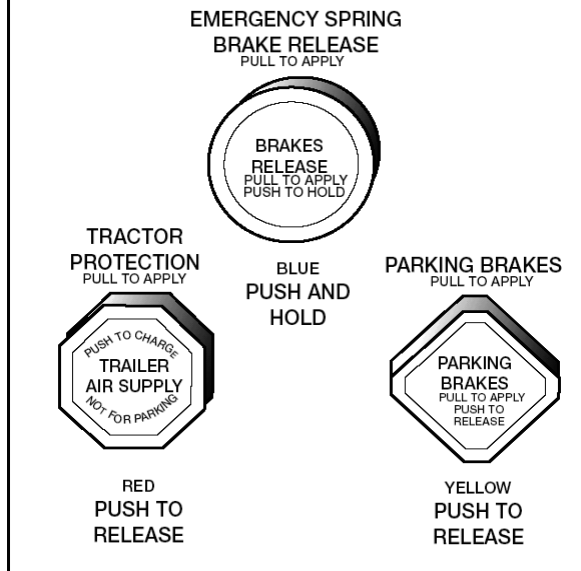

Figure 5.3
**Dual Parking Control Valves** - When main air pressure is lost, the spring brakes come on. Some vehicles, such as buses, have a separate air tank that can be used to release the spring brakes. This is so you can move the vehicle in an emergency. One of the valves is a push-pull type and is used to put on the spring brakes for parking. The other valve is spring loaded in the “out” position. When you push the control in, air from the separate air tank releases the spring brakes so you can move. When you release the button, the spring brakes come on again. There is only enough air in the separate tank to do this a few times. Therefore, plan carefully when moving. Otherwise, you may be stopped in a dangerous location when the separate air supply runs out. See Figure 5.3.